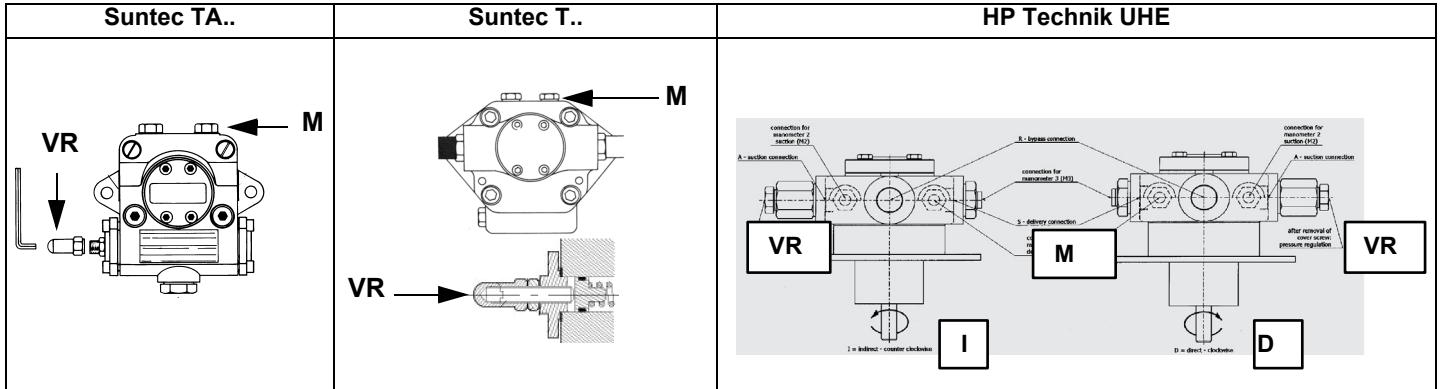
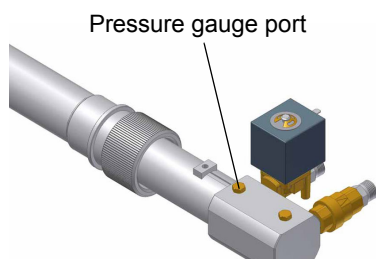

Fig. 11
Fig. 12
3 bleed the air from the **M** pressure gauge port (Fig. 11) by loosening the cap without removing it, then release the contactor.
9 the nozzle supply pressure is already factory-set and must not be changed. Only if necessary, adjust the supply pressure as follows (see related paragraph); insert a pressure gauge into the port shown on Fig. 12 and act on the pump adjusting screw **VR** (see Fig. 11 and page 18) as to get the nozzle pressure at 20 bar or 25 bar (according to the nozzle model provided: Bergonzo or Fluidics nozzles - see page 28-33).
**ATTENTION:** To set the outlet pressure of the VD-R regulator, act on the adjustment ring nut (Fig. 10). The position of the indicator in the dial indicates the value of the outlet pressure calculated as a percentage of the full scale of the PS sensor (Fig. 11)